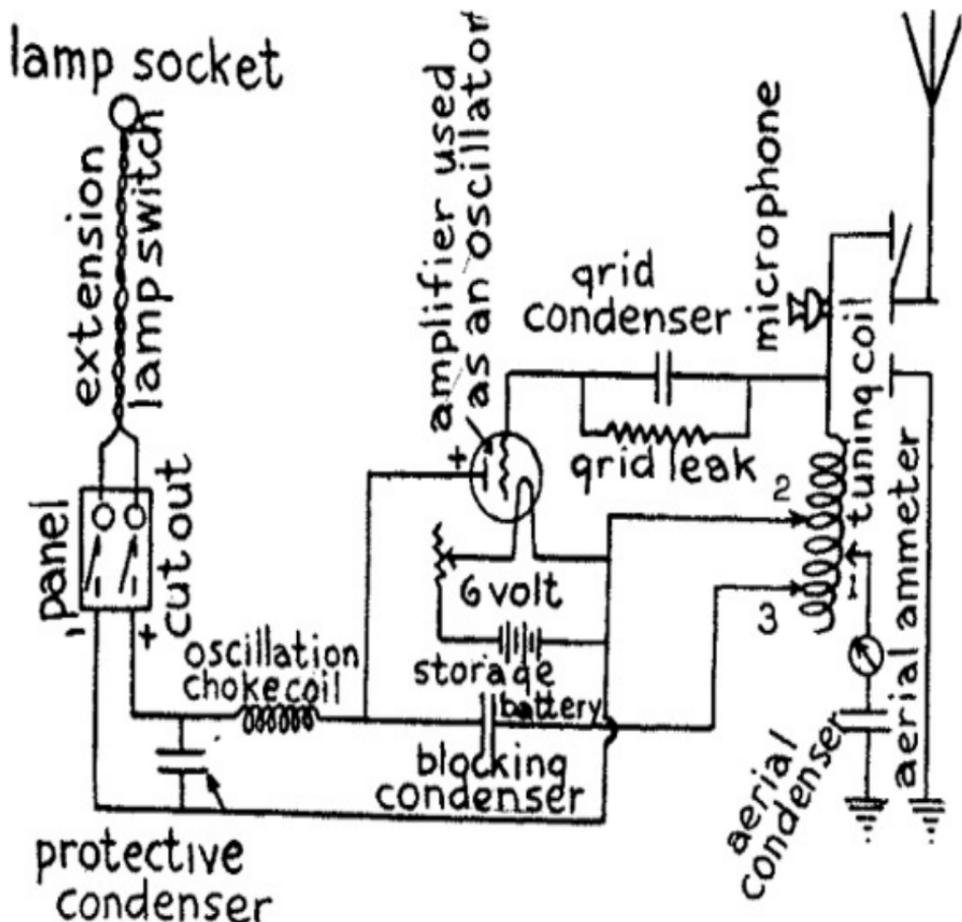

FIG. 85.—Wiring Diagram of Short Distance Wireless Telephone Set.
*Connecting Up the Apparatus.*--Begin by connecting the leading-in wire with one of the terminals of the microphone transmitter, as shown in the wiring diagram *Fig. 85*, and the